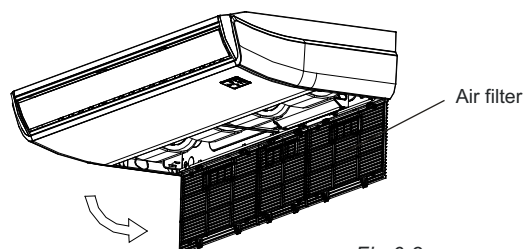

Fig.6-2
- Take out the air filter. (Refer to Fig.6-2)
- Re-install the air filter in the reverse order of Fig.6-2.